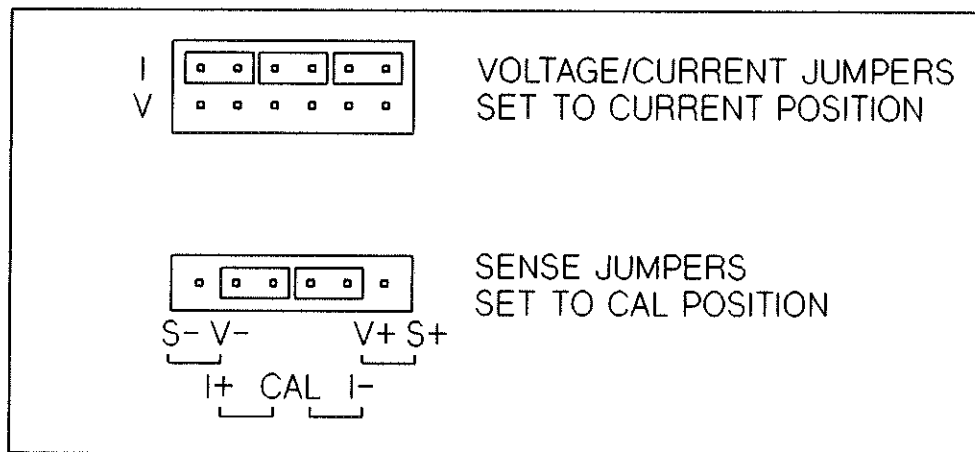

Figure 15-6 Configuration Jumpers set to Current/Cal Positions
- c. Configure the test fixture for each current channel by moving the configuration jumpers on the test fixture to the positions shown in Figure 15-6. Make sure the Sense jumpers are in the CAL position (and not the LOCAL position) as shown in the figure.
3. On the test fixture, make sure the Sense jumpers are set to the CAL position as shown in Figure 15-6 or 15-8.